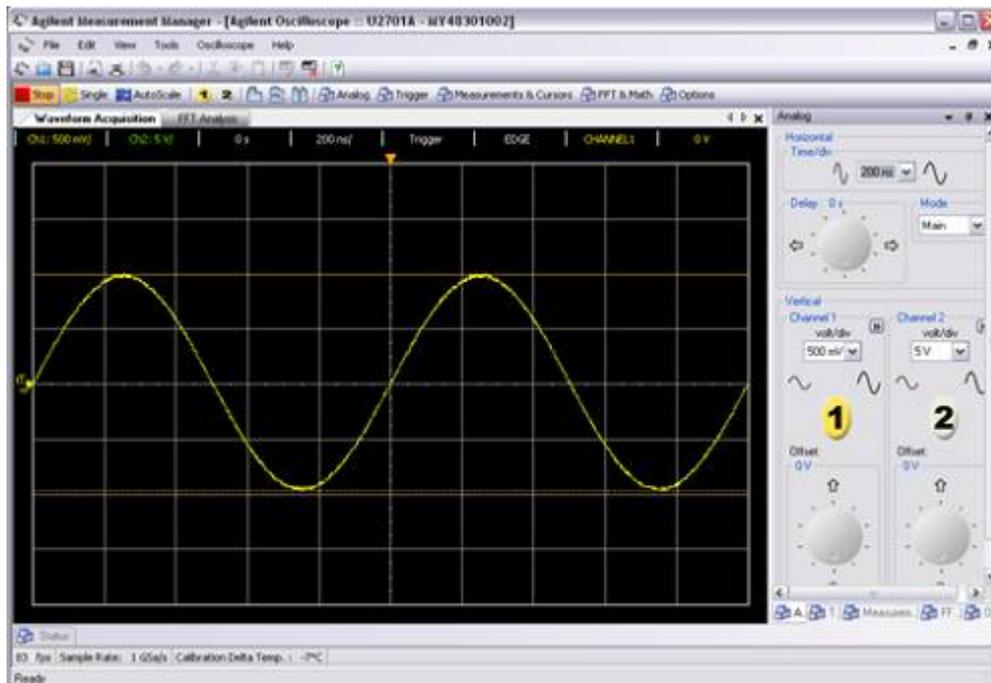

Figure C-2 – Graphical User Interface of the Agilent Measurement Manager (Oscilloscope)
5. Figure C-2 shows the general graphical user interface of the Agilent Modular Oscilloscope on the Agilent Measurement Manager.